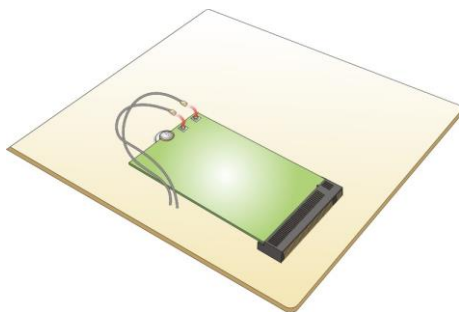

Figure 3-6: Connecting RF Cables
Step 5: Connect the two RF cables to the antenna connectors on the WLAN module (Figure 3-6).